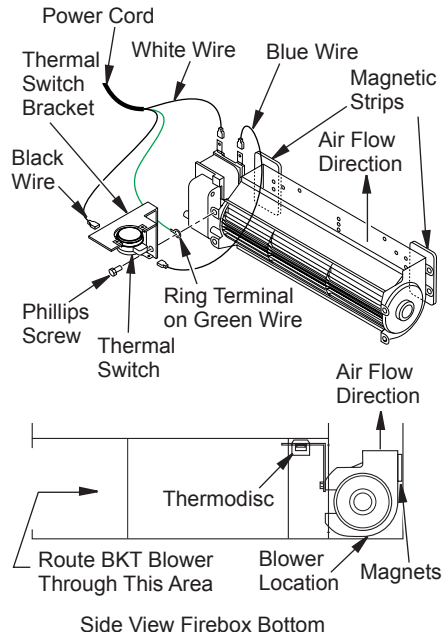

Figure 29 - Blower Model BKT
- Place green ground wire with ring terminal between bottom hole on thermal switch bracket and top ear hole on blower assembly. Insert Phillips screw into all three pieces and tighten securely (see Figure 29).
- Place blower against lower rear wall of firebox outer wrapper with exhaust port directed upward and thermodisc positioned up near fireplace bottom. Thermodisc must be oriented near fireplace bottom as shown in Figure 29 in order to sense temperature and properly operate. Blower will be held in position against back wall by magnets incorporated onto blower housing (see Figure 29).